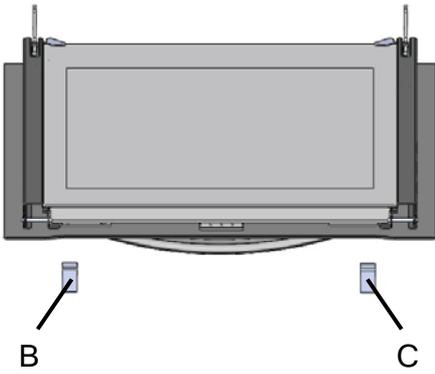

Fig.4:
- Gently close the door until left and right hinge levers A are hooked to part B of the door (Fig.4);
- Remove the seal D by unscrew the no.2 bolts (fig.4)